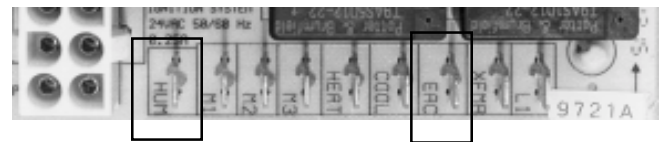

Figure 40.
- D. Humidifier & Electronic Cleaner Tap - Both taps are rated at 1 amp and have an output voltage of 120 VAC. All humidifiers and electronic air cleaners should be installed per the installation instructions the manufacturer supplied with their equipment. (See Figure 40.)